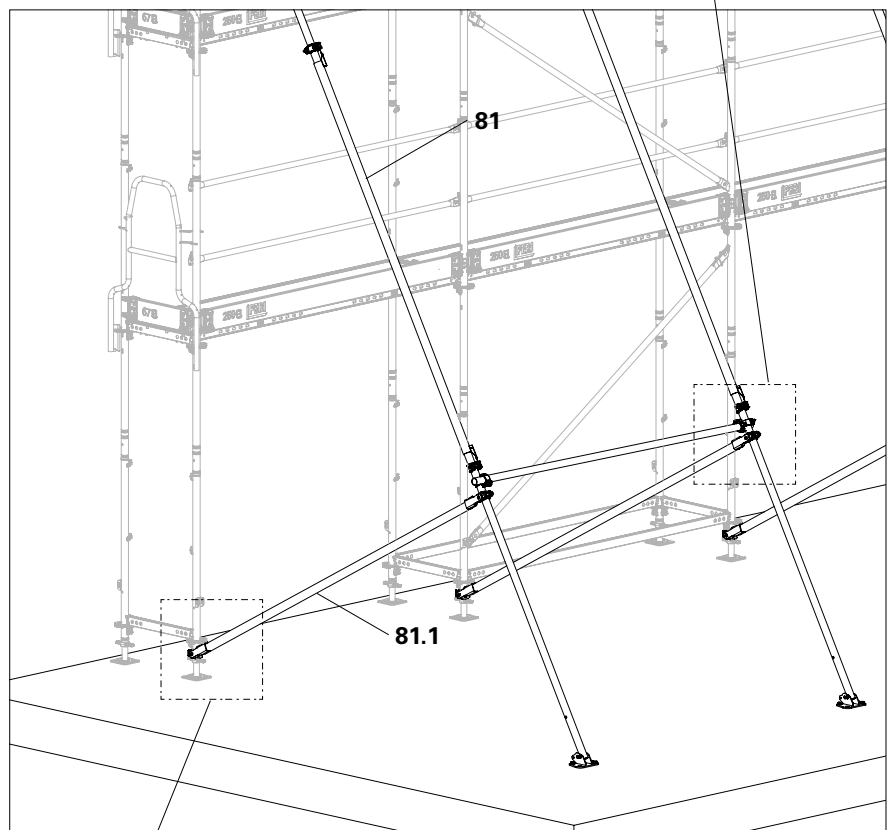

Fig. C4.07
- The bracing is now installed. (Fig. C4.07)